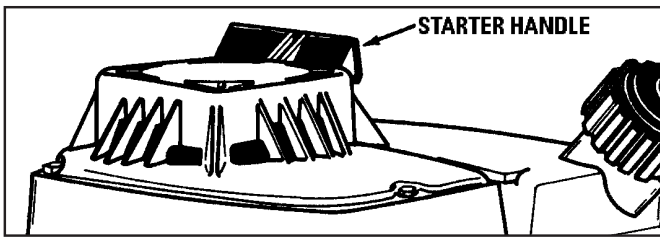

Figure 4
- Grasp starter handle (see Figure 4) and pull rope out, slowly, until it pulls harder. Let rope rewind slowly. Then pull rope with a rapid **short** arm stroke. Let rope return to starter slowly.